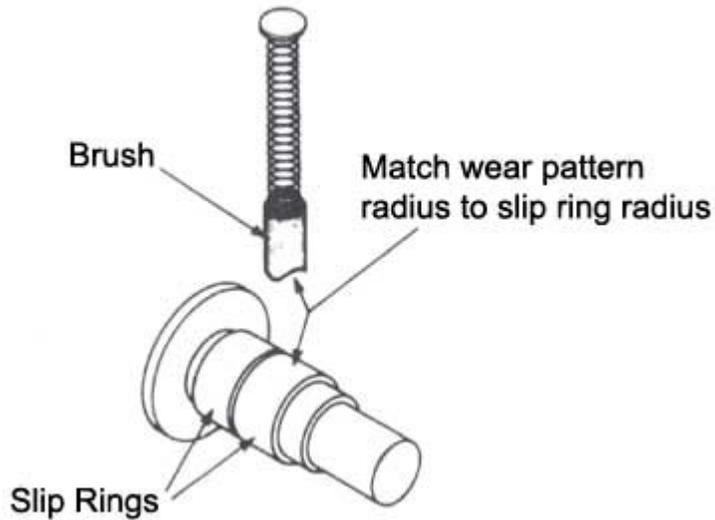

Figure 24
18.2 If the original brushes are being reused, then the wear pattern of the brush must be matched with the radius of the slip rings (Figure 24).